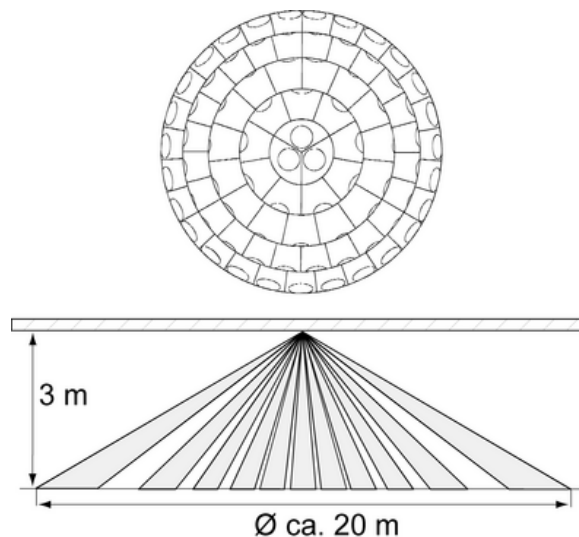
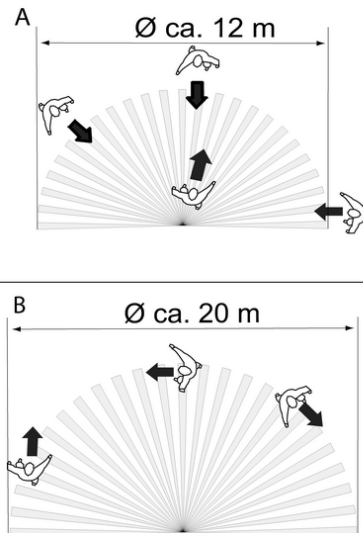

Figure 2: Sensor window and detection area
Figure 3: Detection area dependent on the direction of movement
The motion detector has a detection area of 360° (Figure 2). The diameter of the detection area depends on the installation height and the direction of motions of persons in the detection area (Figure 3). At an installation height of 3 m the maximum diameter on the floor is approx. 12 to 20 m.
- i** Note direction of motion (Figure 3). Motions that are transverse to the motion detector (Drawing B) can be detected better than motions towards or away from the motion detector (Drawing A).